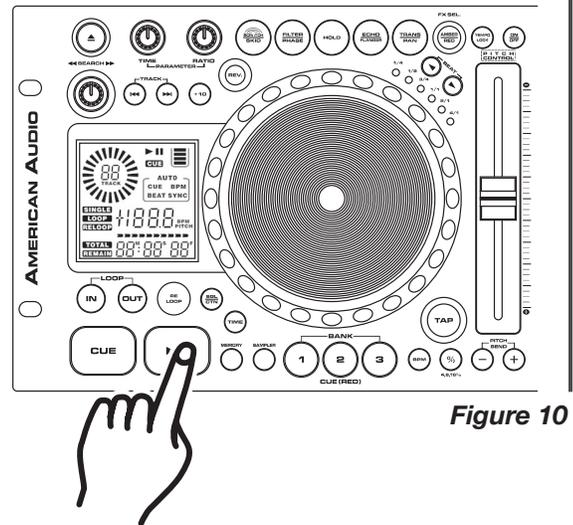
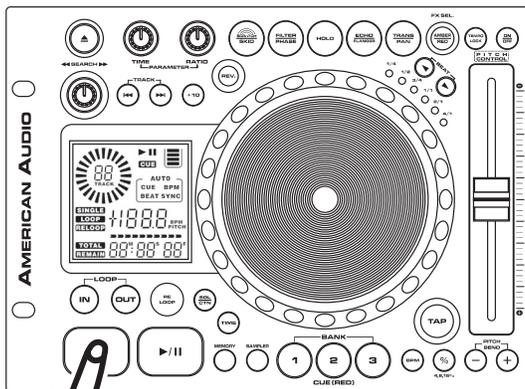
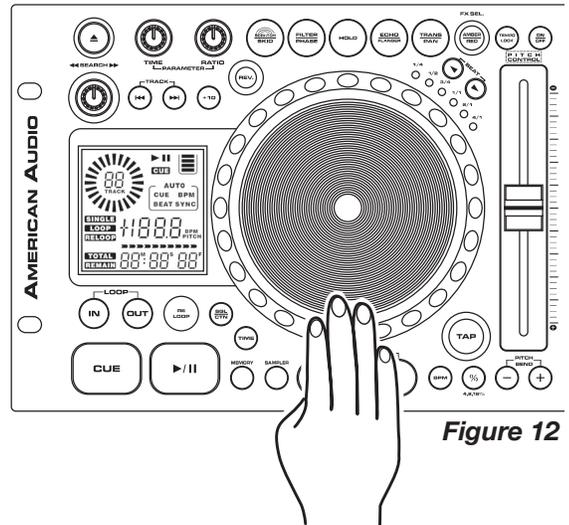

Figure 10
Figure 11
Figure 12
3. STARTING PLAYBACK - Figure 10
5. STOPPING PLAYBACK - Figures 10 & 11
- 1) Press the *PLAY/PAUSE BUTTON* (32) during playback. This will pause playback at the exact same point the *PLAY/PAUSE BUTTON* (32) was pressed.
- 2) Press the *CUE BUTTON* (33) during playback. This will pause playback and return the track to the last set cue point.
6. PAUSING - Figure 10
This feature allows you to scroll through a track frame by frame, allowing you to find and set a starting cue, sample, or loop point. To use the scroll function you must first be in Pause Mode (see section 5) or Cue Mode (see section 9). Once you are in Pause or Cue mode, turn the *JOG WHEEL* (20) to scroll through the track (Figure 12). Turning the wheel in a clockwise direction will advance the frame search and turning the wheel in a counter-clockwise direction rewinds the frame search. When you use the *JOG WHEEL* (20) the monitor (headphone level) function allows you to here what you are scrolling through. Once you reach your desired starting point you can set a cue (starting) point by pressing the *PLAY/PAUSE BUTTON* (32) as in Figure 10. Pressing the *CUE BUTTON* (33) as in Figure 11 will now return you to the point you just set.